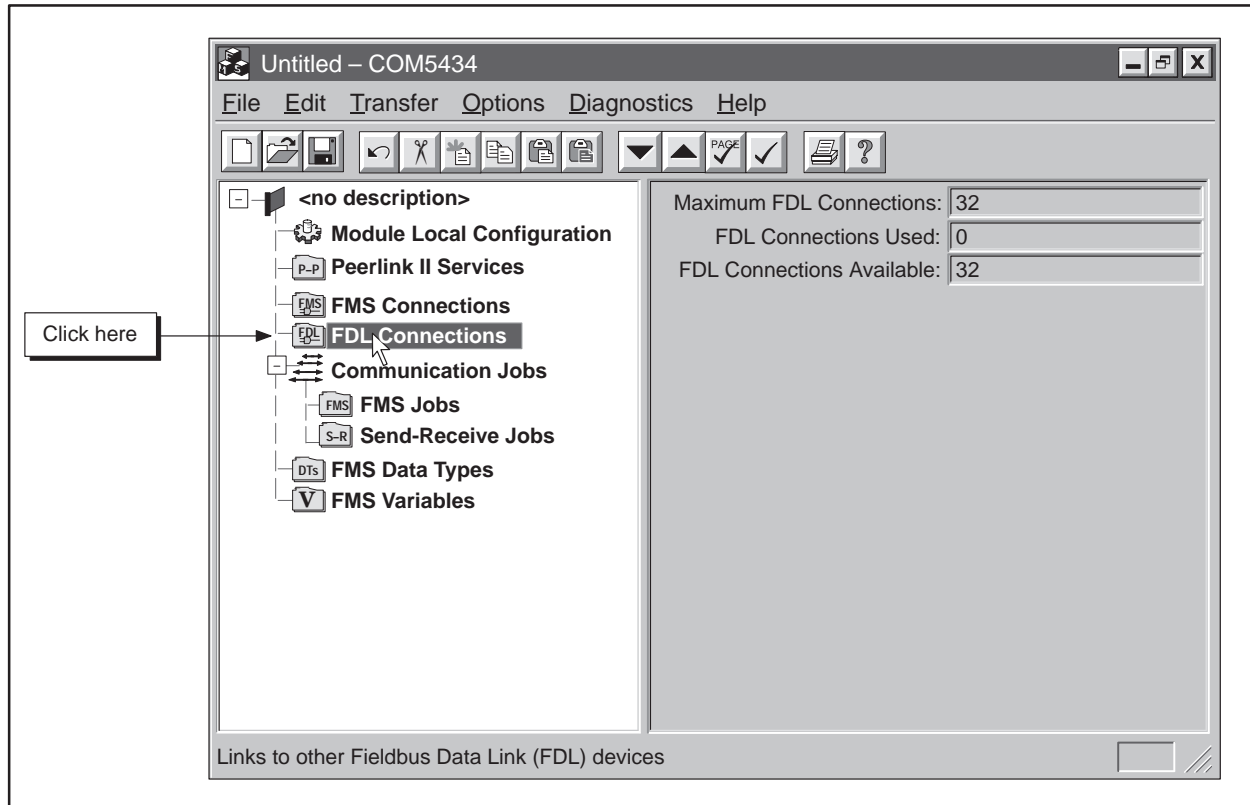

Figure 5-16 FDL Connections Available
**FDL Connections** The FMS CP module supports up to 32 FDL connections, as shown in Figure 5-16. FDL connections are used for Send-Receive jobs.